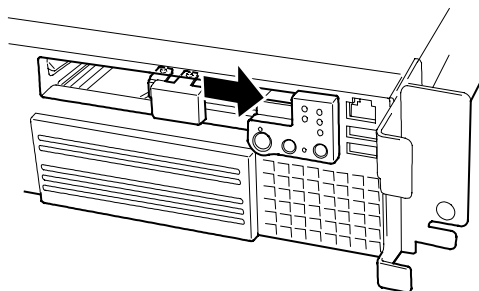

Figure 4-59. Installing the Spacer
5. Install the provided spacer on the server. See Figure 4-59.